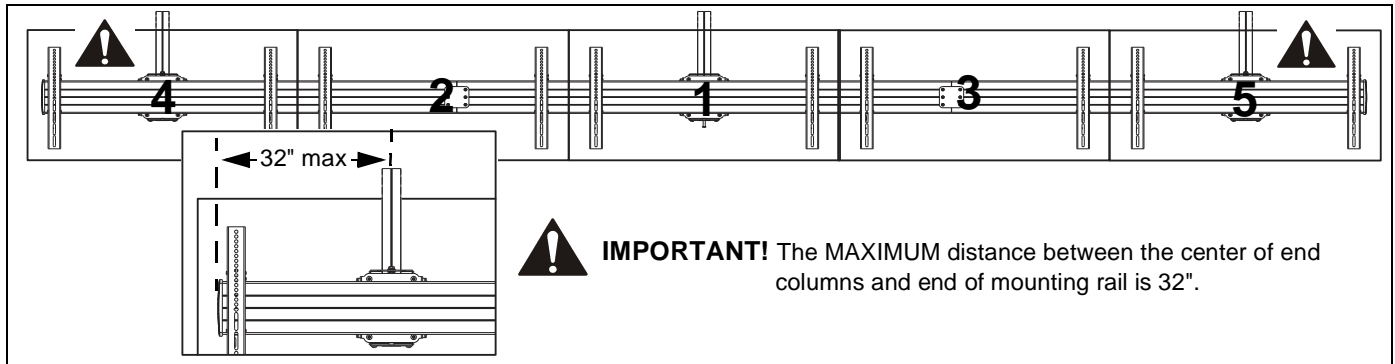

Figure 8
- The center display (1) MUST be installed first and centered on the center column. (See Figure 8)
- Mount displays 2 and 3 an equal distance from center display (1).
10. Repeat Steps 3 through 5 for remaining displays, adding displays following correct order shown. (See Figure 8)